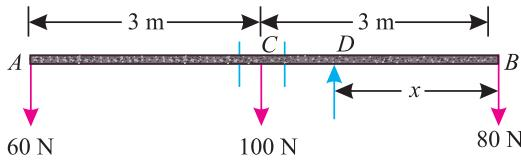

Fig. 4.5.
**Example 4.4.** A uniform beam  $AB$  of weight 100 N and 6 m long had two bodies of weights 60 N and 80 N suspended from its two ends as shown in Fig. 4.5.